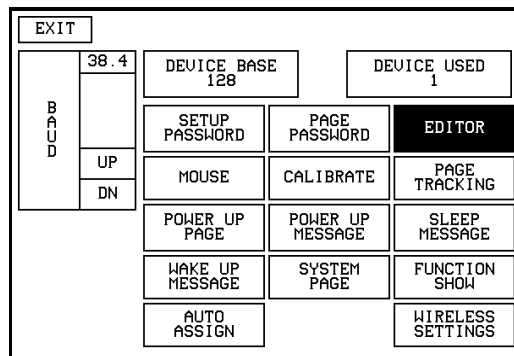

FIG. 12 Protected Setup page with the active EDITOR button
4. Press EDITOR to enable Edit mode. The EDITOR button is highlighted in the Protected Setup page when enabled, as shown in FIG. 12.
Press the DEVICE BASE option, in the Protected Setup page (FIG. 12), to assign a base (starting) device address to the touch panel.
Use the DEVICE USED option in the Protected Setup page (FIG. 12) to assign an initial value for the device address range used by the touch panel.